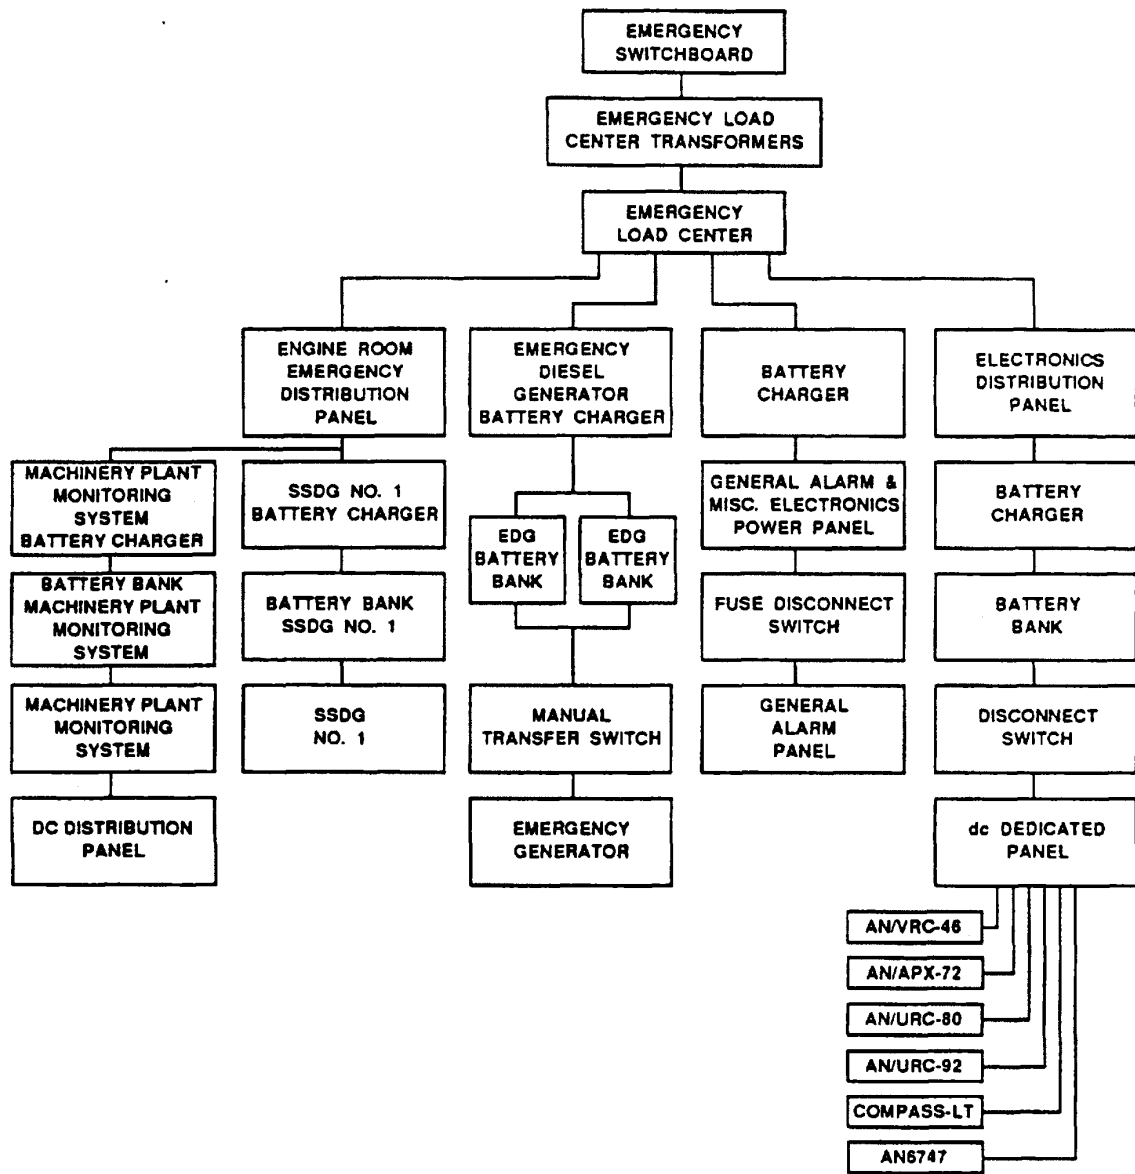

Figure 1-54. Battery Power Distribution System.
c. Storage Batteries (Figure 1-54). Five independent 24 Vdc battery banks are provided. One set of batteries provides starting power for the emergency diesel generator engine. Another set provides starting power for the starboard SSDG (No. 1). The third set of batteries provides power for the general alarm system. The fourth set of batteries provides power to the radio room do panel, which supplies selected Communication, Electronic, and Navigation (CEN) equipment. The last set of batteries provides power (24 Vdc) for the machinery plant monitoring system and engine control.